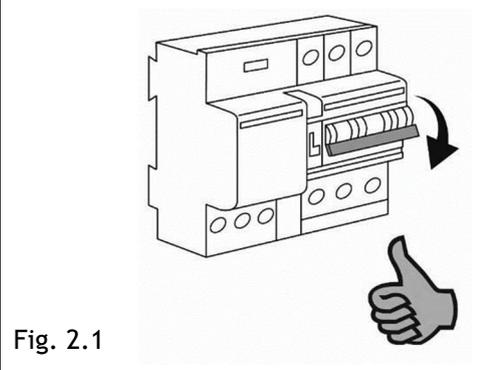

Fig. 2.1
**Attention! Before any cleaning or maintenance operation or in the event of thunderstorms, disconnect the appliance by setting the main system switch to "off" (Fig.2.1) or by unplugging it (Fig.2.2).**